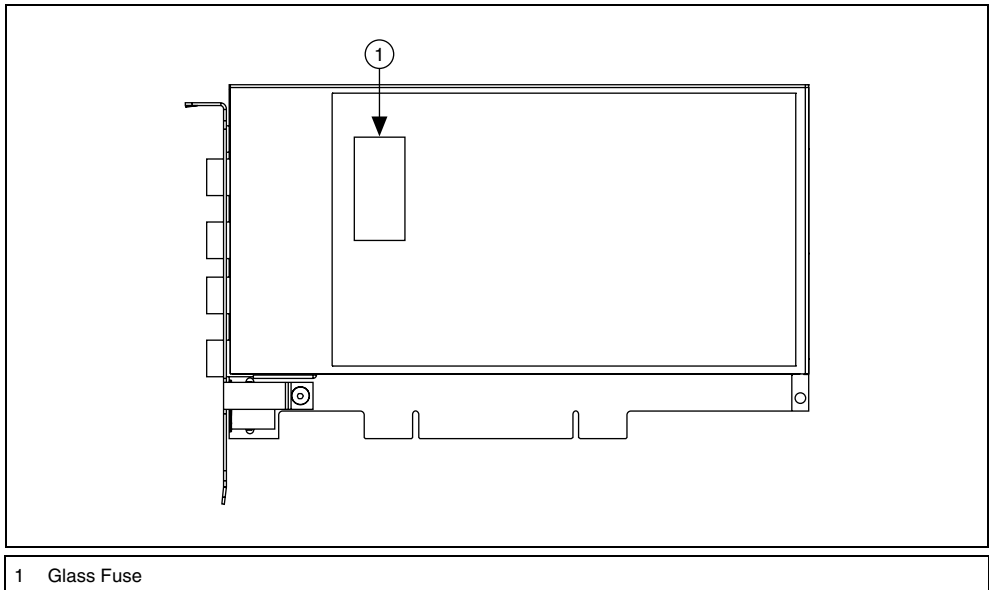

Figure 24. Removing the Fuse from the NI PCI-4060
5. Locate the 5 × 20 mm glass fuse shown in Figure 24.